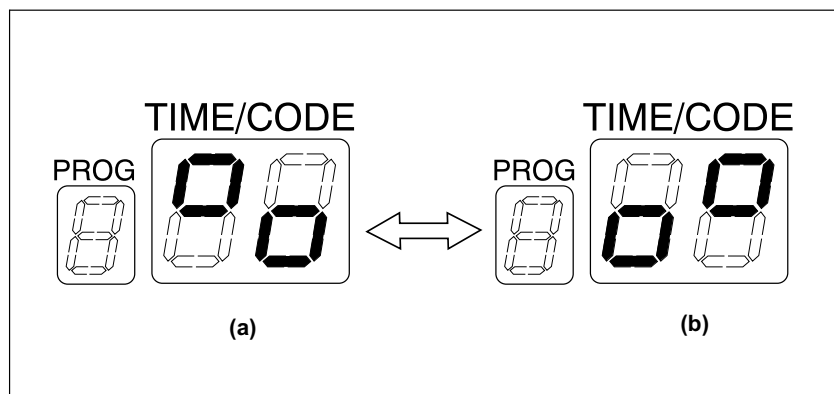

Figure 7.69
5. As multiple beeps sound, the time display on the main panel alternates between Figure 7.69 (a) and (b) indicating that it is ready to add the disinfectant solution.